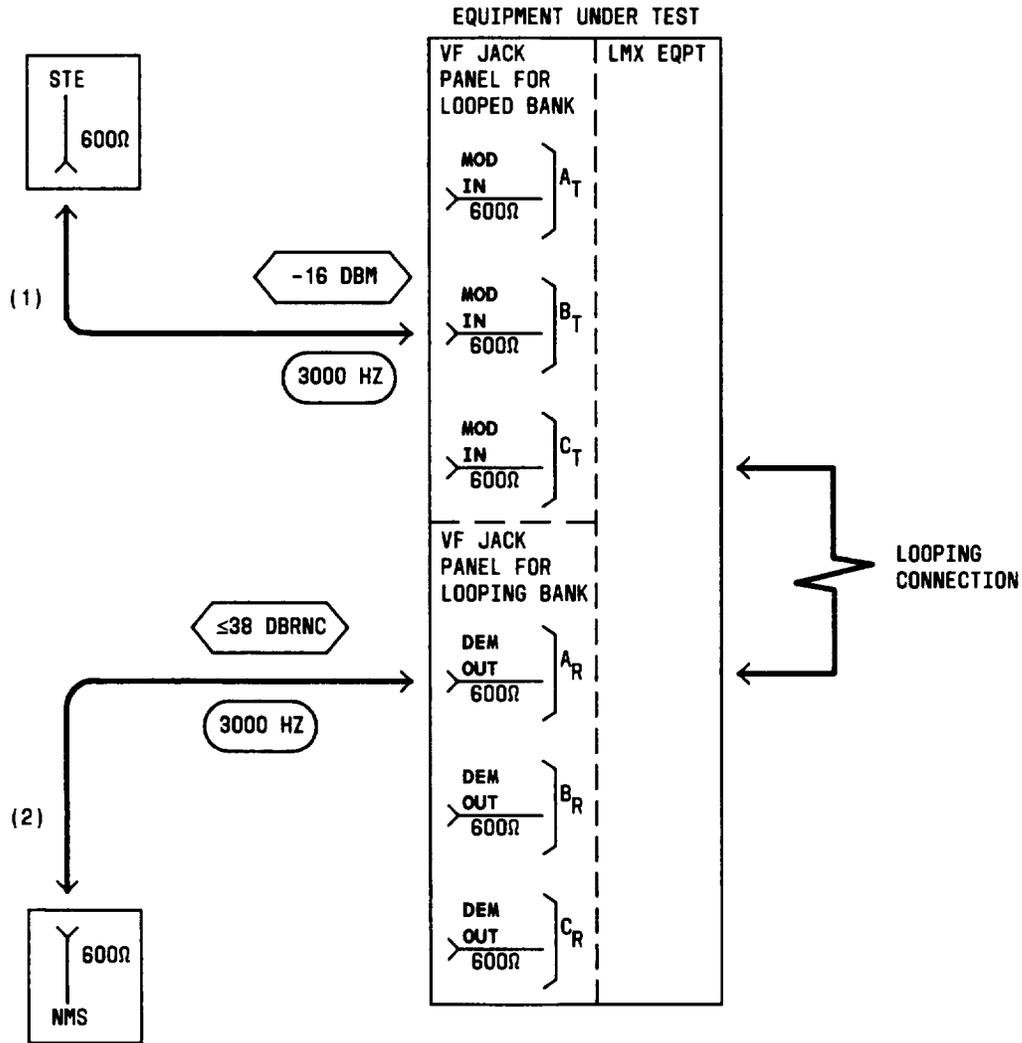

Fig. 15—Patching Diagram—Crosstalk Test—Equal-Level Looping—Lower Adjacent Channel (3000 Hz)
- 12 Connect the STE to the MOD IN jack for Test A in *looped*-bank Channel Br [Table F and patch (1), Fig. 15].
- 13 Connect the NMS to the DEM OUT jack for Test A in *looping*-bank Channel Ar, [(Table F and patch (2), Fig. 15].
- 17 Remove patches (1) and (2), Fig. 15.